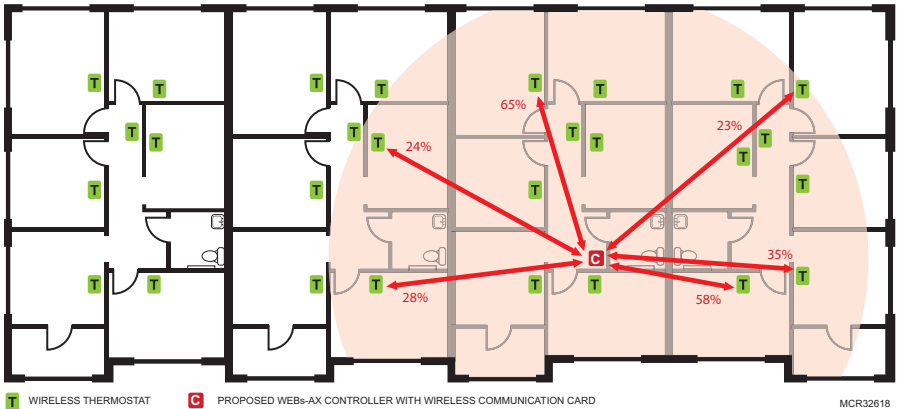

Fig. 10. Measuring the radius of the first hop.
3. Move to another cluster of thermostats at different points to determine the radius. This represents the maximum radius of the first hop where connectivity is possible based on the building environment and partition construction. Please note that this distance can be anywhere from 0 to hundreds of feet (Fig. 10). It's possible that another location may improve your network performance or that you may require an additional controller with a wireless communication card or additional wireless repeaters.